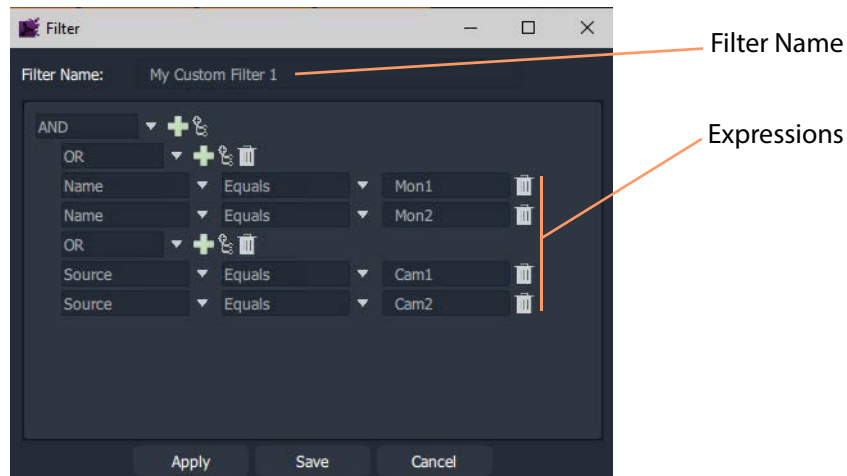

Fig. 13-62: Completed Custom Filter
- 9 Set up the expressions as shown in Figure 13-62.